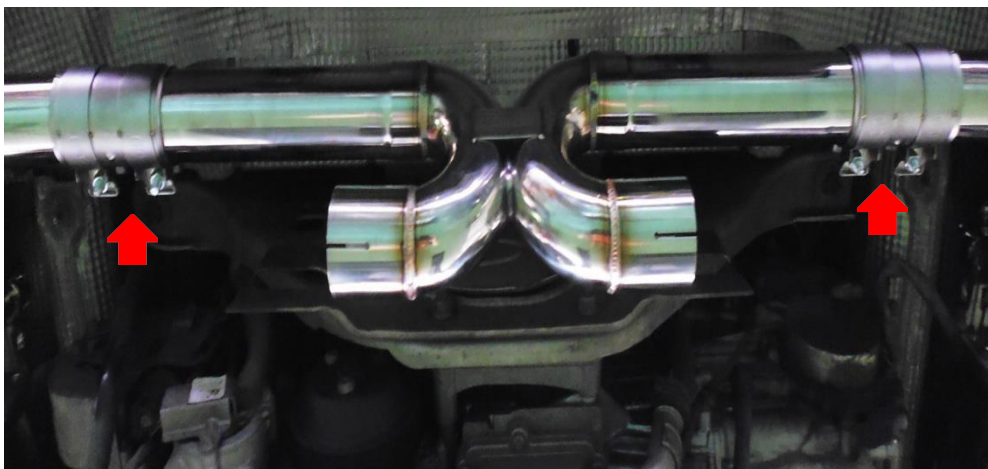

Fig 2-4
5. Fix the X pipe and the muffler with sliding bushes and lock it with a 13mm wrench. (Fig2-4)